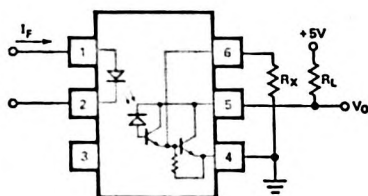

Figure 10. External Base Resistor, R_X
- Use of a resistor between pin 4 and 6 will decrease gain and delay time. (See Figures 10 and 12).